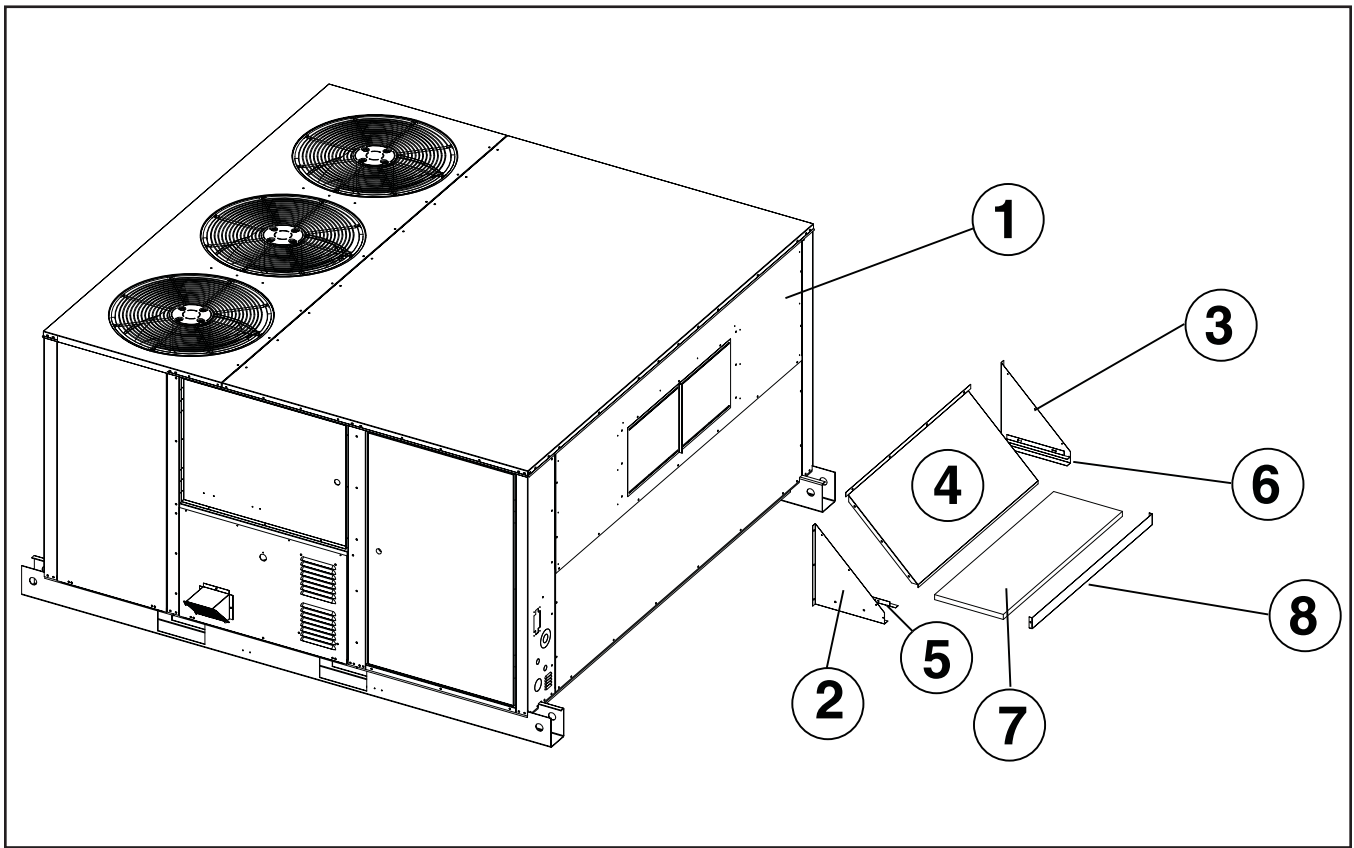

Figure 2.
Identify all components to the Fresh Air Panel and Hood assembly before proceeding. See Figure 2.
2. Remove all screws securing upper factory close off panel. Discard original panel and reuse screws to mount fresh air panel with damper plates (1). See Figure 2.
4. Assemble hood side panels (2 and 3) to hood top (4) using screws provided. See Figure 2.
6. Slide filter (7) into bottom track of hood assembly.